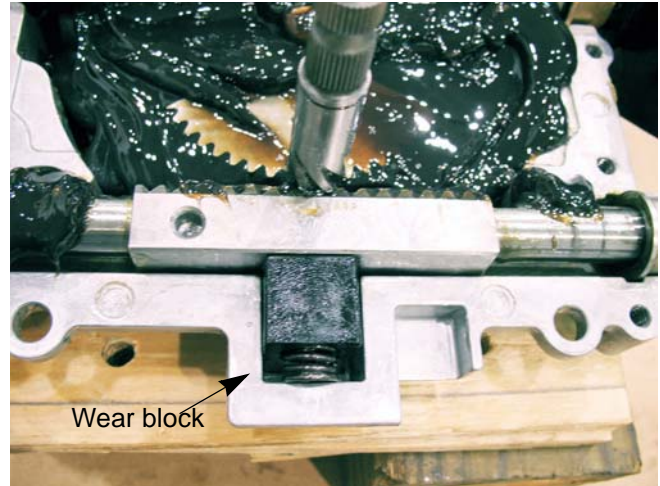

Figure 6.59
17. Install the wear block and spring. See Figure 6.59.